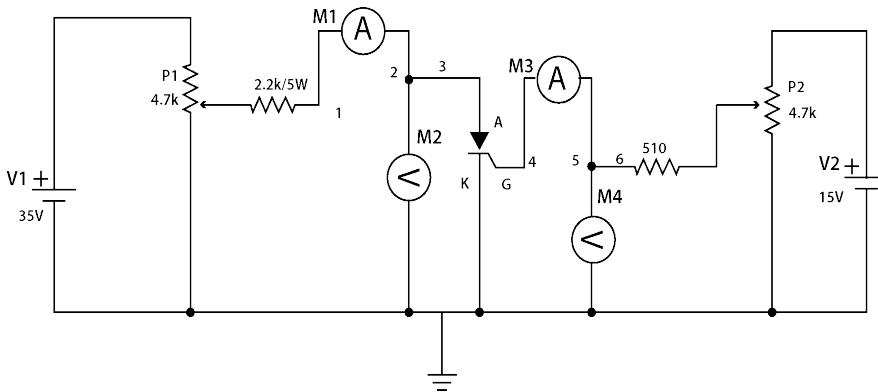

Figure 2
1. Connect the circuit as shown in Figure 2 using patch cords.